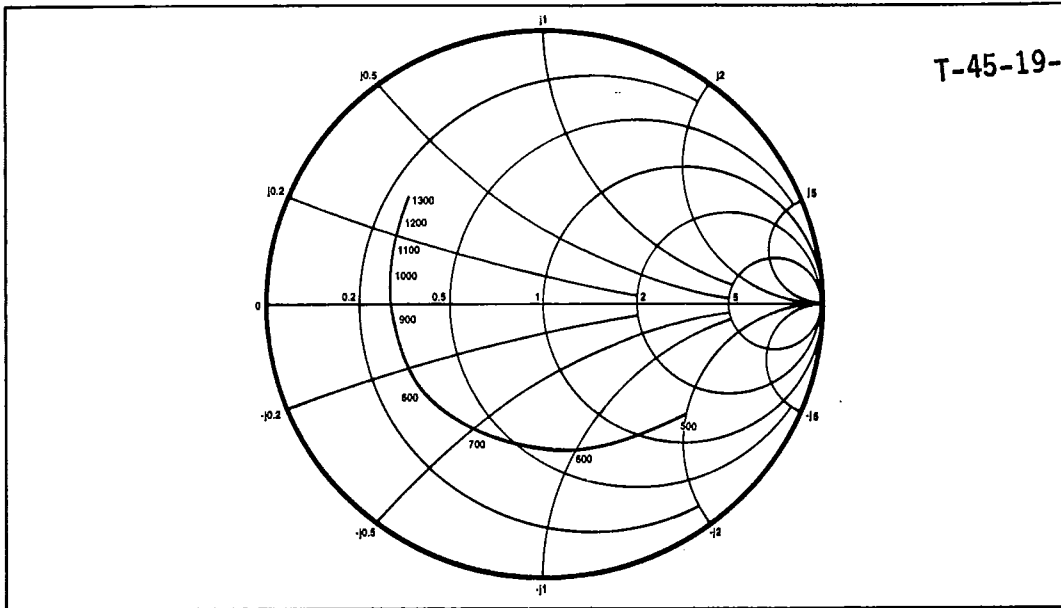

Fig.4 Typical Input impedance. Test conditions: supply voltage -5.2V, ambient temperature 25°C, frequencies in MHz, impedances normalised to 50 ohms.
4. The input impedance of the SP8605/6 is a function of frequency. See Fig. 4.